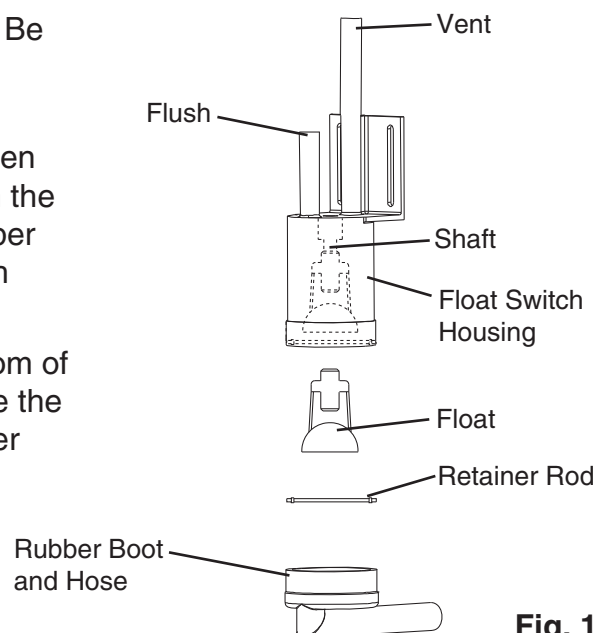

Fig. 1
- 5) Disconnect the vent tube and the flush tube from the top of the float switch, then remove the float switch assembly from the mounting bracket and remove the rubber boot from the bottom of the float switch assembly. See Fig. 1.